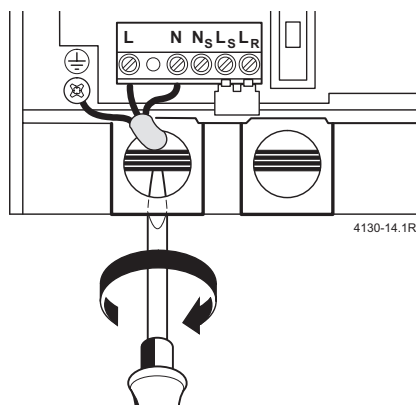

Fig. 28
- Feed cable through cable grommet and connect the mains supply cable, see fig. 28.